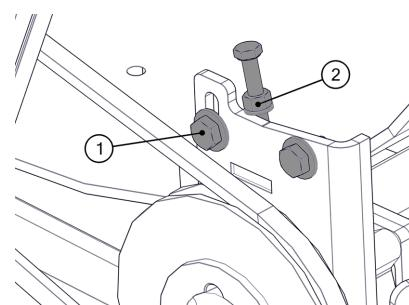

Figure 26 - Pump belt adjustment
2. Loosen the two M10 bolts on the hydraulic pump mounting pad (Figure 26, Item 1).
3. Loosen the M8 lock nut on the drive belt tensioning bolt (Figure 26, Item 2).